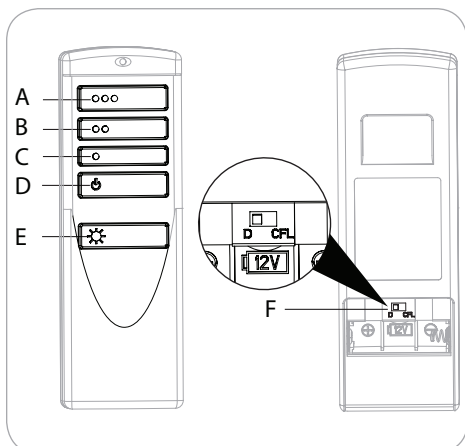

Figure 3.1
- F - **D/CFL Switch**: Must stay in the "D" position (Figure 3.1).